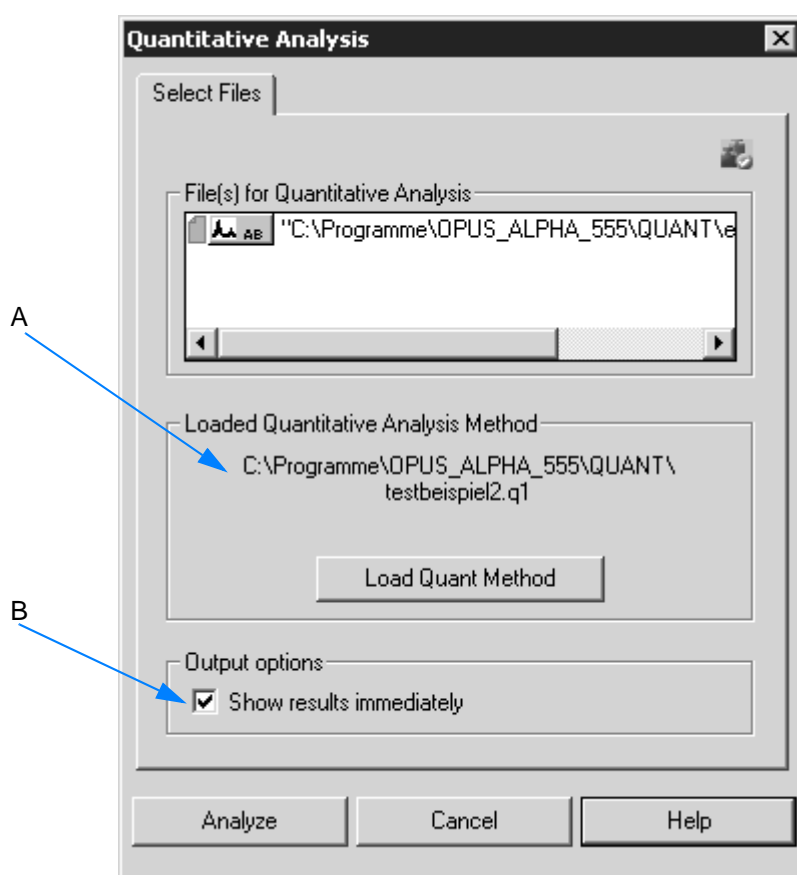

Figure 143: Quantitative Analysis - Select Files
- 1 Load a QUANT method if no QUANT method is displayed or if you want to use a different method than displayed. Click on the *Load QUANT Method* button and select the respective method from the dialog. **Note: By default, the dialog shows the name of the QUANT method recently used** (A in figure 143).
- 2 Activate the *Show results immediately* option box (B). The quantitative analysis results are directly displayed after the analysis has been performed.